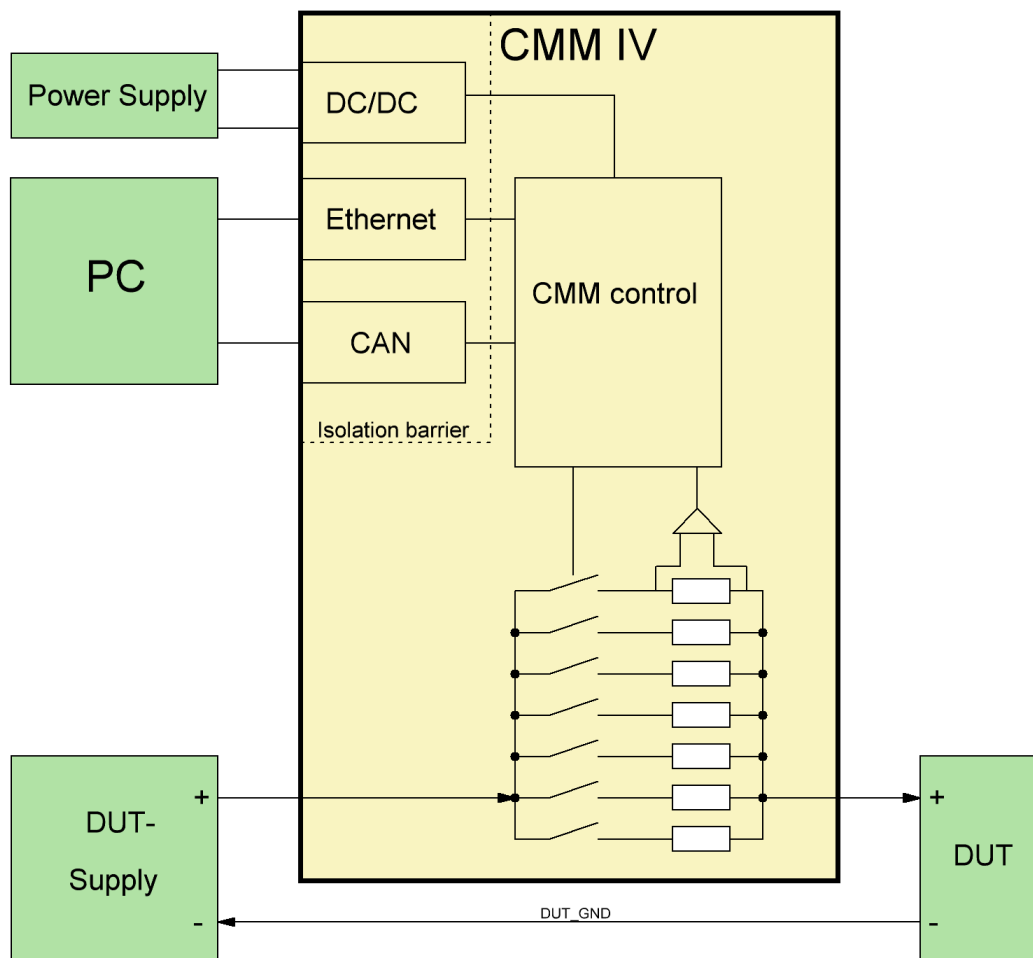

Figure 1: CMM-IV HW Overview
- The CMM-IV current path must be connected in series to the DUT as illustrated in figure 1